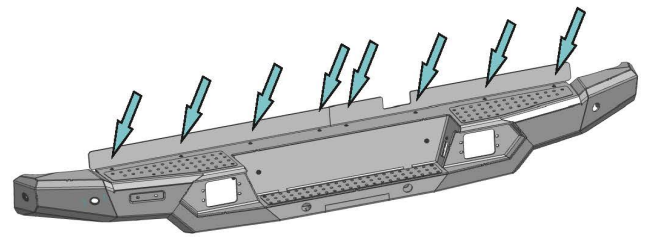

Fig. 28
27. Install backings of bumper body (item 5,6) onto bumper body (item 1) using screws M6 and washers 6 (item A, E).(Fig.28).